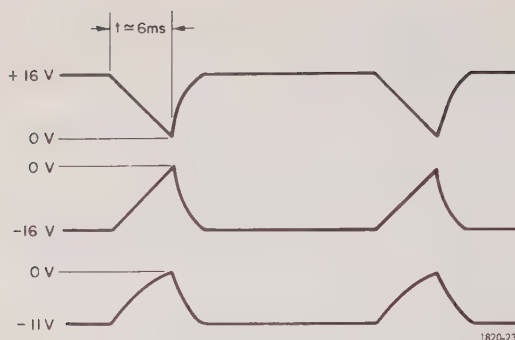

Figure 5-4.
e. If the sweeps now appear and resemble Figure 5-4, the difficulty is in the comparator circuits, if the amplifier is ok.